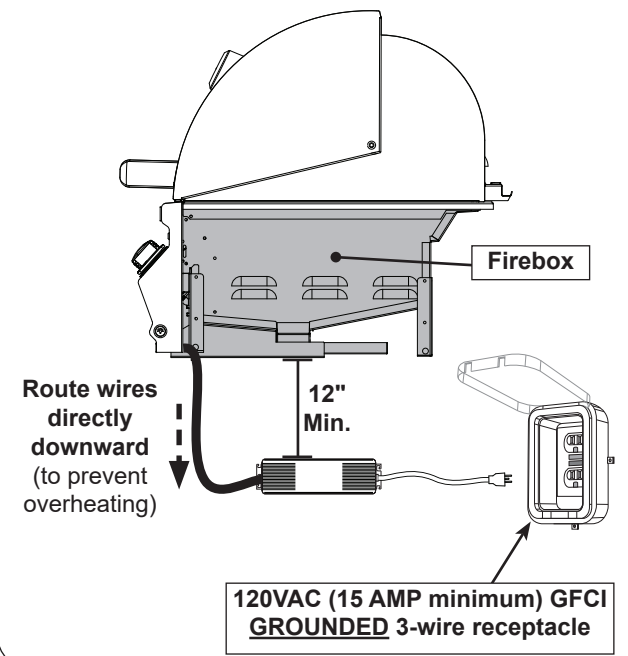

Fig. 29-3 Electrical installation
4. Reconnect the harness to the power supply box. (See Fig. 29-3).
1. Route the power supply below the control panel and directly downward. This will prevent overheating. **DO NOT** route the harness below the unit firebox. See Fig. 29-3.
- located at least **12"** below the bottom of the unit (see Fig. 29-3)
3. Connect the power cord to a **120VAC (15AMP minimum) GFCI GROUNDED three-wire receptacle** (see Fig. 29-3). The GFCI receptacle must be a WEATHER-PROOF IN-USE COVERED RECEPTACLE.